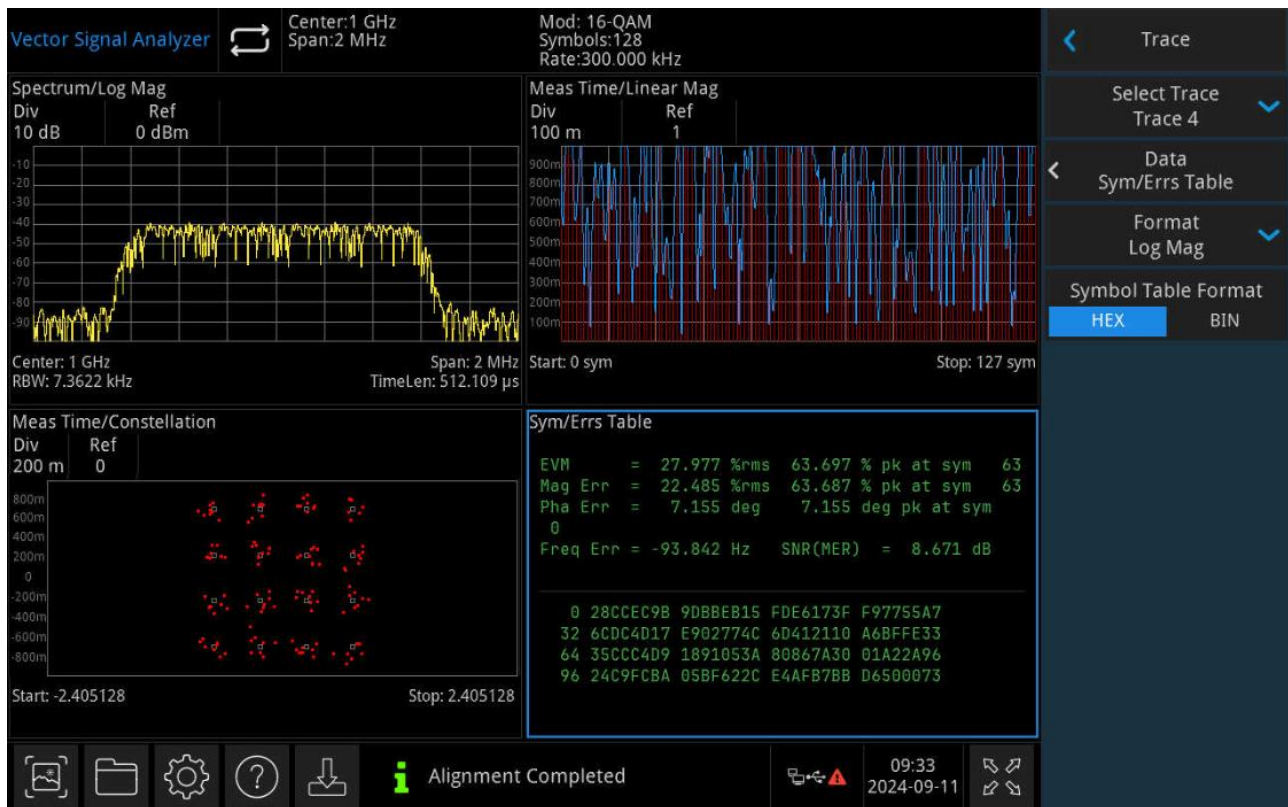

Figure 3-1 Select Trace
**Select Trace:** Select the trace you want to use. A total of 4 traces are included (the displayed traces are arranged in different ways for different selected trace formats), and the selected traces are highlighted in the window, as shown in Figure 3-1 below.